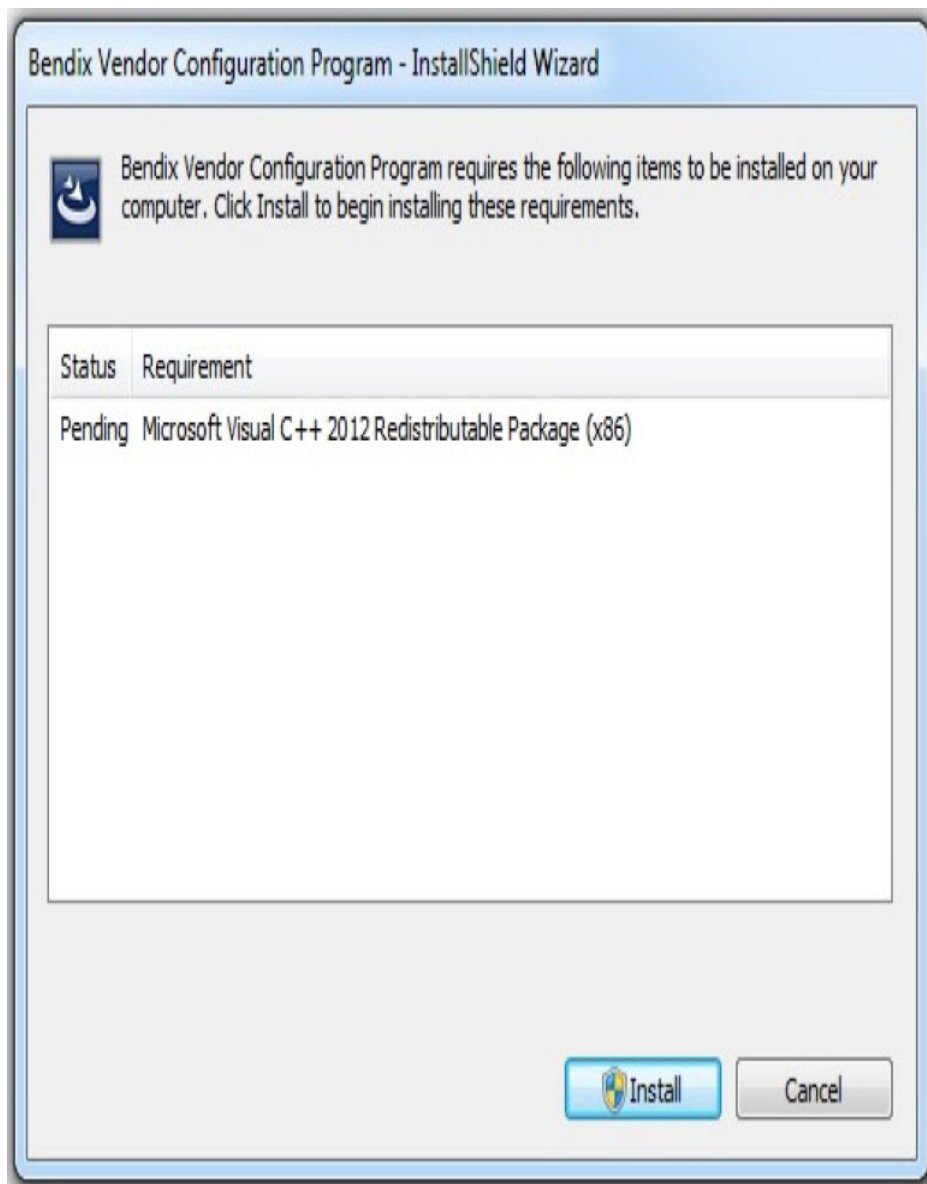

Figure 2
**Note:** A message will be shown if an additional required component is not installed on the PC. [see figure 2]